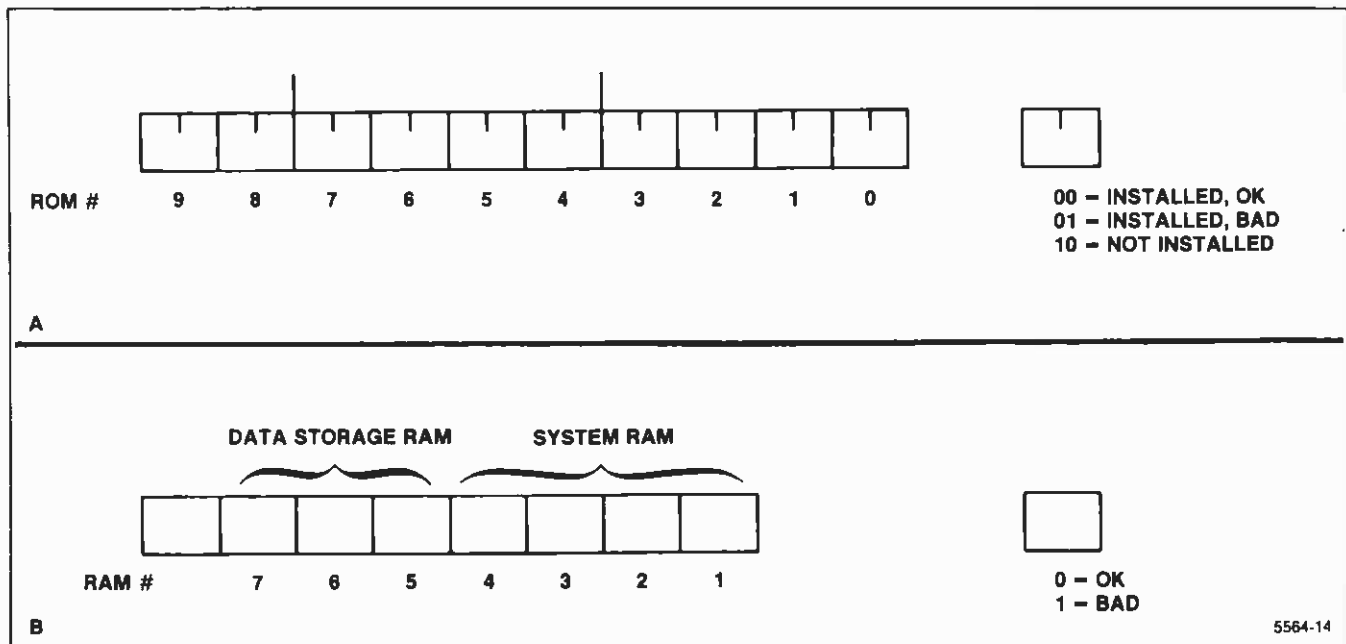

Figure 9-1. TEST Conversion Chart.
The TEST query response consists of two decimal numbers that indicate if a ROM or RAM IC was found to be defective. These numbers must be translated to their binary equivalents to determine the ROM and RAM locations. (If all ROM and RAM are good, the TEST query response will be ROM:0, RAM:0.) After the binary numbers are determined, put them into the conversion chart in Figure 9-1 to identify the IC number. Then, use Table 9-3 to find the correct circuit number and circuit board. The following example shows how to use the conversion chart and Table 9-3. If any ROM or RAM ICs are indicated to be bad, refer this information to qualified service personnel.
2. Insert this binary number in part A of Figure 9-1 (right-justified). Blocks 6 and 2 will be 01. This indicates that both ROM 6 and ROM 2 are bad; all other ROMs are good.
2. Insert this binary number in part B of Figure 9-1 (right-justified). Blocks 4 and 2 each contain a 1, which indicates that both RAMs 4 and 2 are bad; all other RAMs are good.